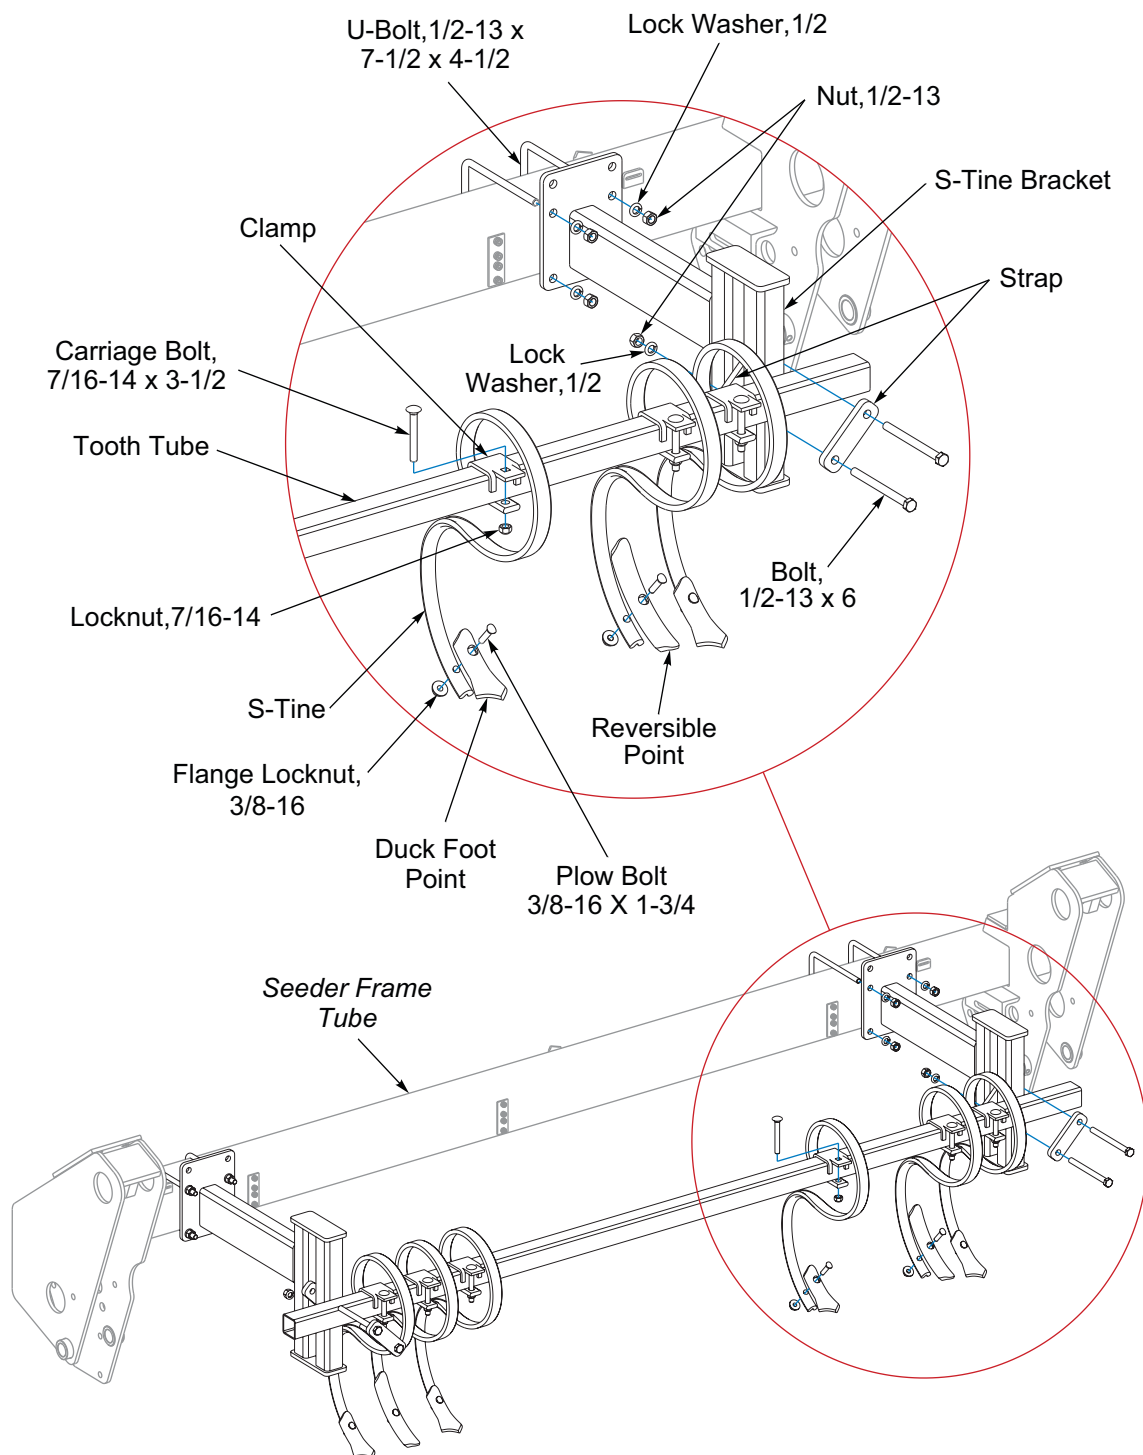
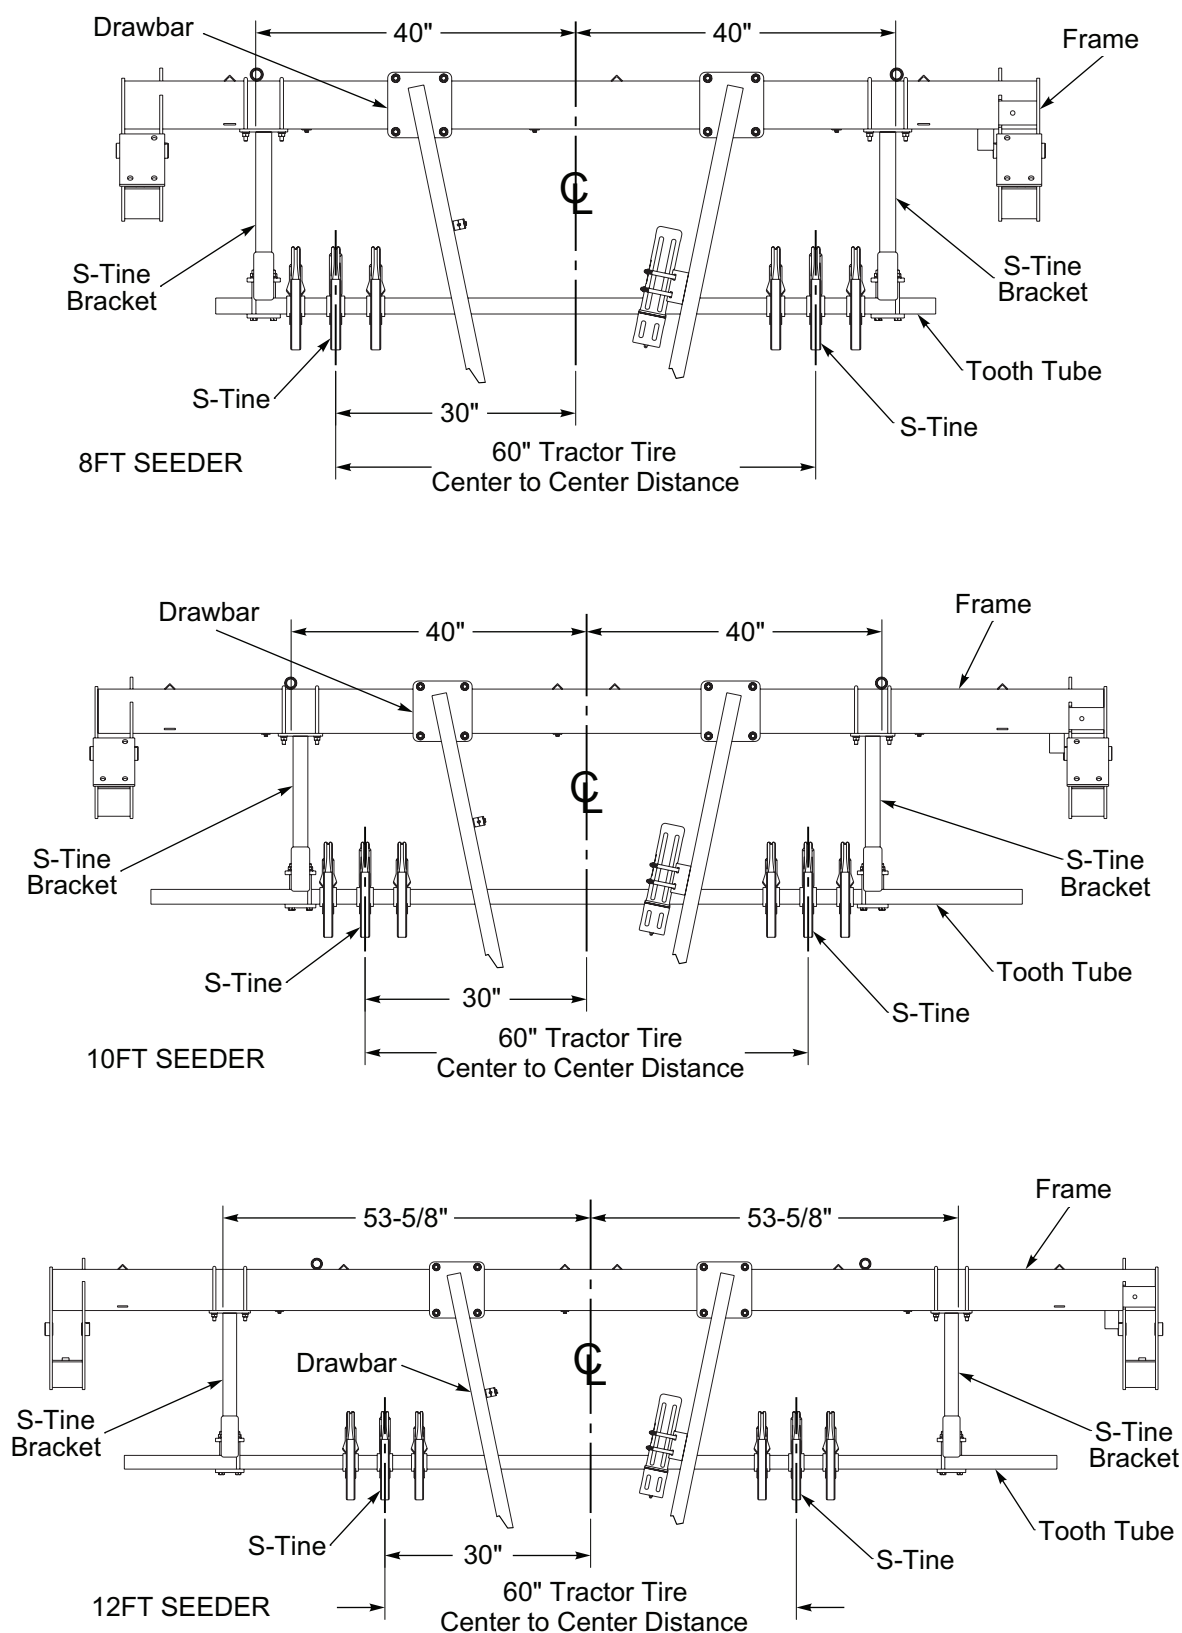

Figure 2-79: S-Tine Track Remover Kit - Optional
Figure 2-80: S-Tine Mounting Dimensions
S-Tine Brackets and S-Tines should be positioned per application. Use **Figure 2-80** only as a reference.
1. Center and position the S-Tine Brackets in relationship with the center of the Drawbar or 3-PT Hitch to the front of the Seeder Frame Tube. **See Figure 2-80.** Secure S-Tine Brackets to the Seeder Frame Tube with 1/2-13 x 7-1/2 x 4-1/2 U-Bolts, Lock Washers and Nuts. **See Figure 2-79.**